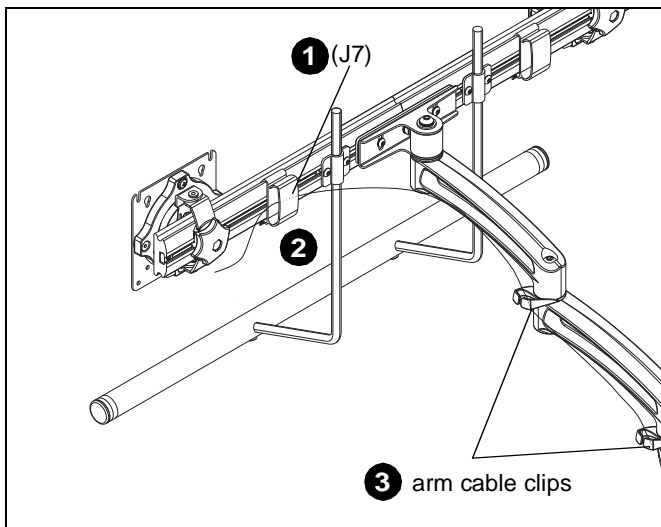

Figure 17
1. Install cable clips (J7) to back of array. (See Figure 17)
2. Route cables through cable clips (J7) as desired. (See Figure 17)